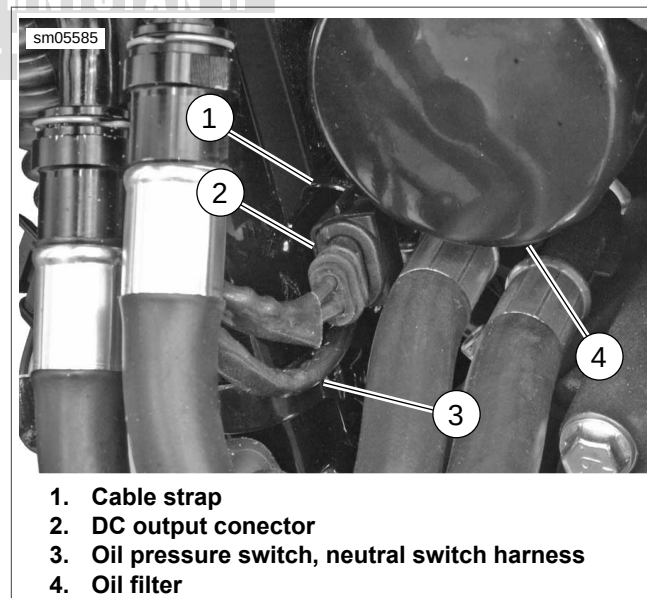

Figure 6-93. DC Output Connector: XR 1200X
3. See Figure 6-93. Cut cable strap (1). Lift external latch on connector and separate connector halves.